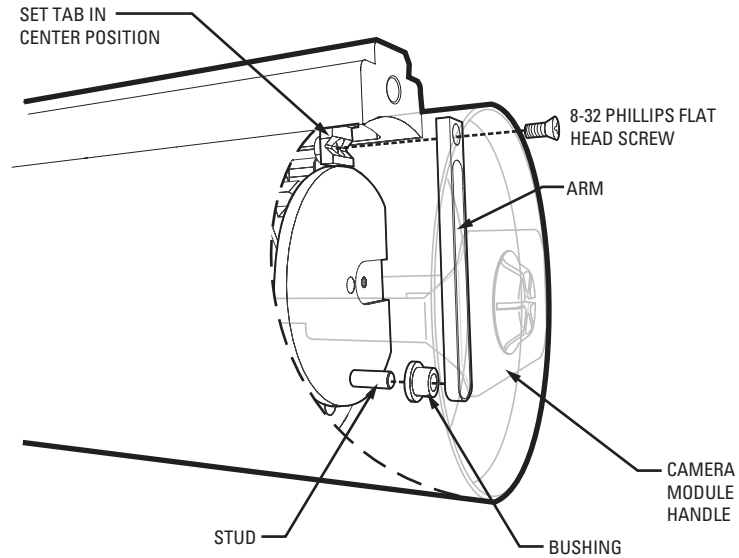

Figure 8. Install Wiper Arm
4. **Models with a wiper:** Refer to Figure 8 and do the following to install the arm of the wiper:
- a. Place the supplied green bushing on the stud located behind the handle of the camera module. The bushing should be in the same orientation as shown in Figure 8.
5. Secure the camera module (and wiper) with the supplied 8-32 Phillips flat head screw (refer to Figure 8).